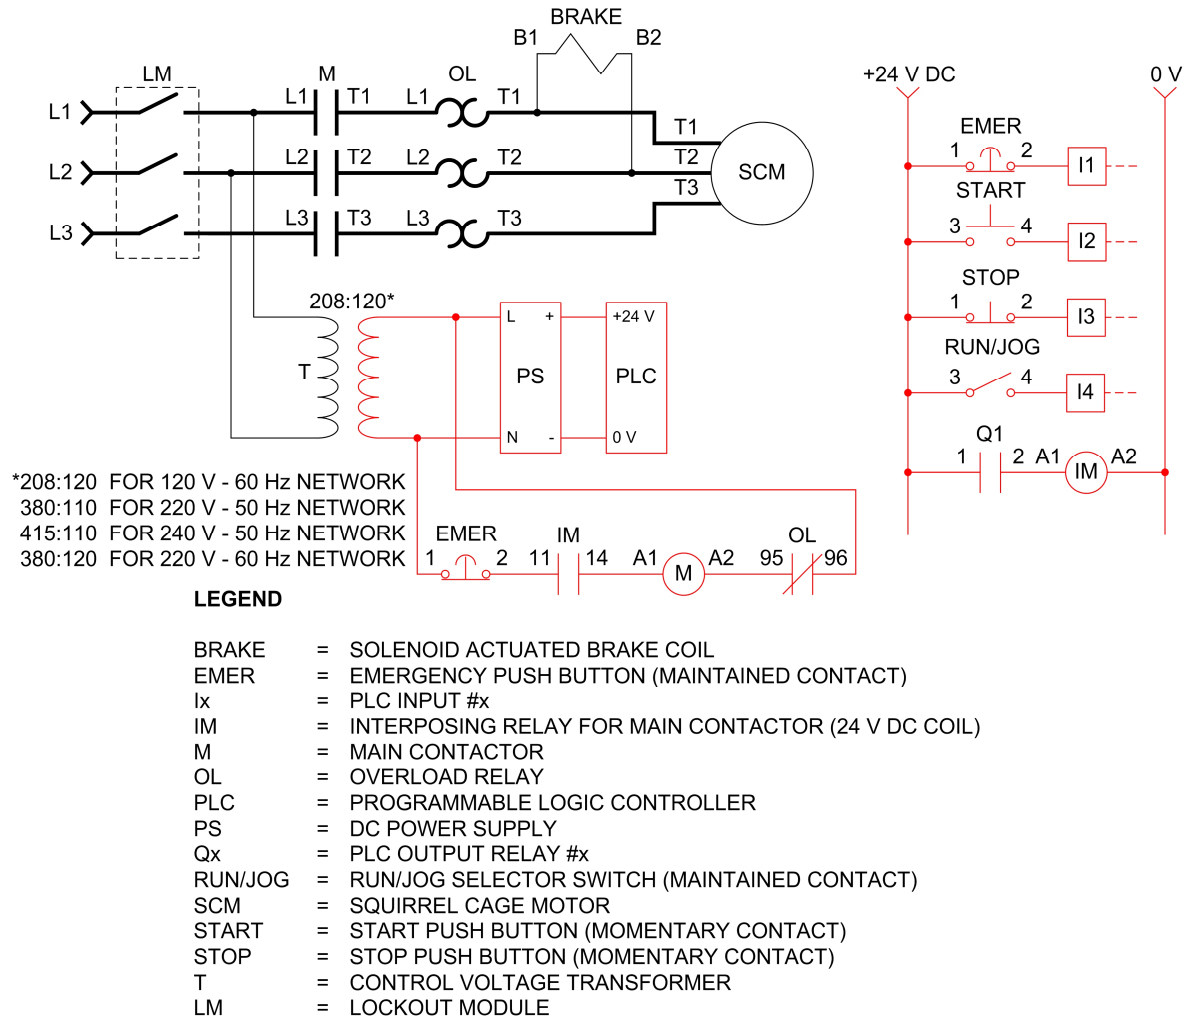

Figure 2-9. Jog/Run with selector switch connection diagrams.
Set up the circuit shown in Figure 2-9.
- ☐ 17. If you refer to Figures 2-9 and 2-11, do you have to change any other connection than the PLC inputs to convert the last circuit into the new one?
2. What are the differences between the connection diagrams in Figures 2-9 and 2-11?